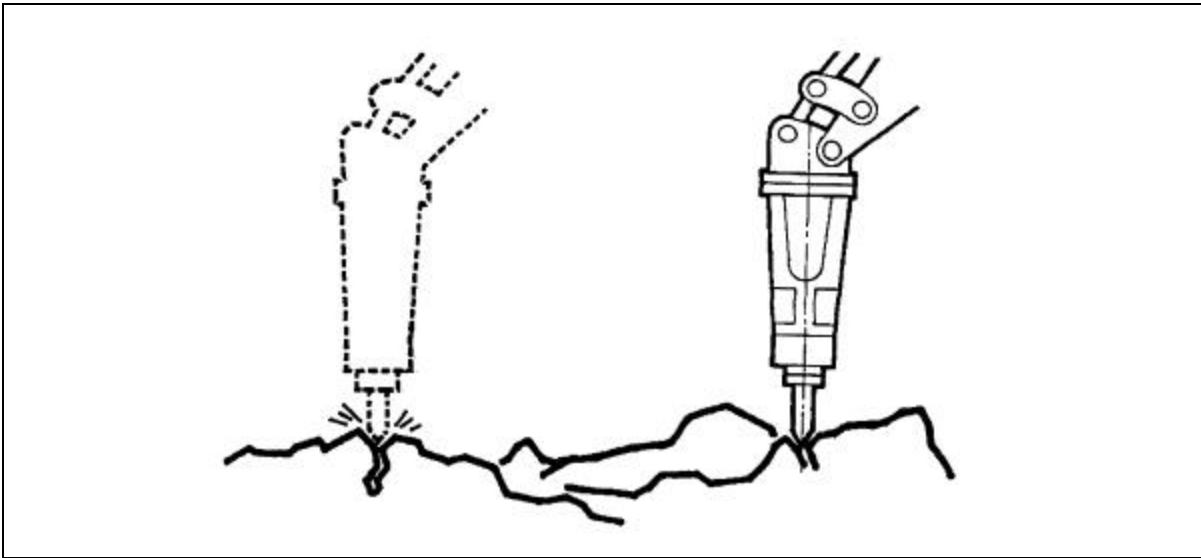

Figure 02-05: Reposition Breaker Every 30 Seconds
- h) If cracks in the material do not appear in **30 seconds**, move to a new position along the grain of the material (Figure 02-05), perhaps working on a smaller section or edge of the material. Always look for advantageous weak points in the material (e.g. cracks, bumps, veins) at which to start. This saves undue stress on the breaker.